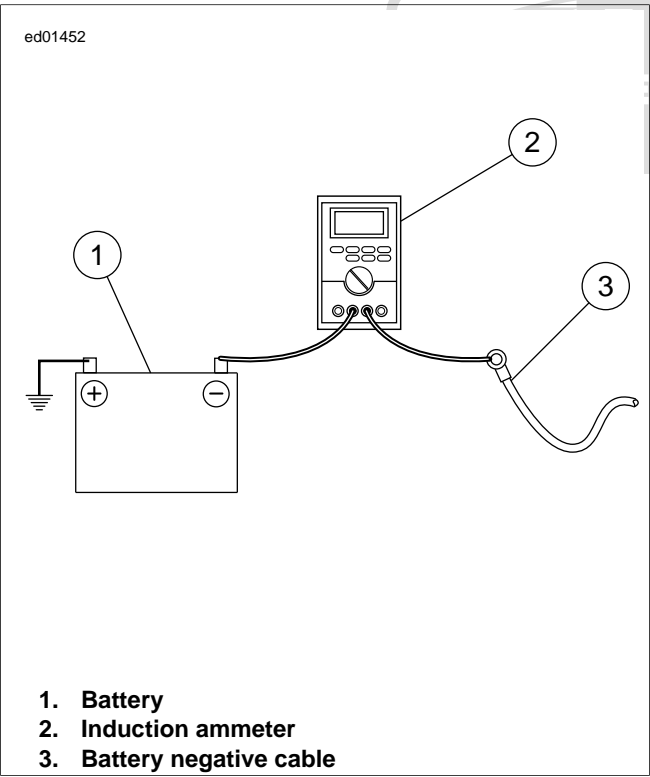

Figure 1-20. Milliampere Draw Test (Ignition turned to OFF)
- 1. See Figure 1-20. Connect ammeter between negative battery terminal and battery. With this arrangement, you will also pick up any regulator drain.